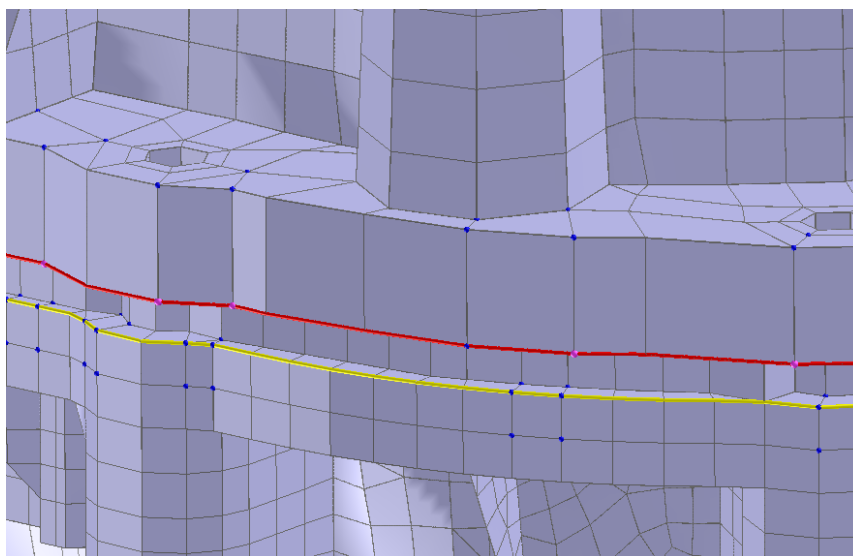

Figure 5.45 Seam 2.
- Repeat steps mentioned above to create Seam 2. See Figure 5.45.